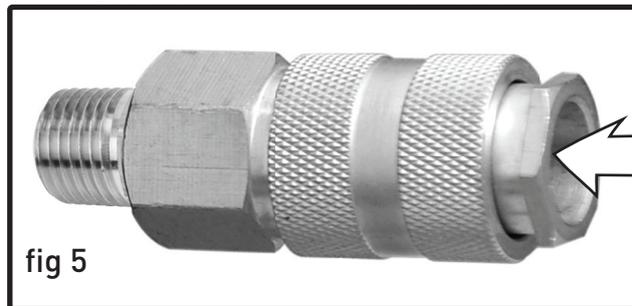

fig 5
1. Simply push the "connector" or "plug" into the fitting (fig 5) and it automatically engages.